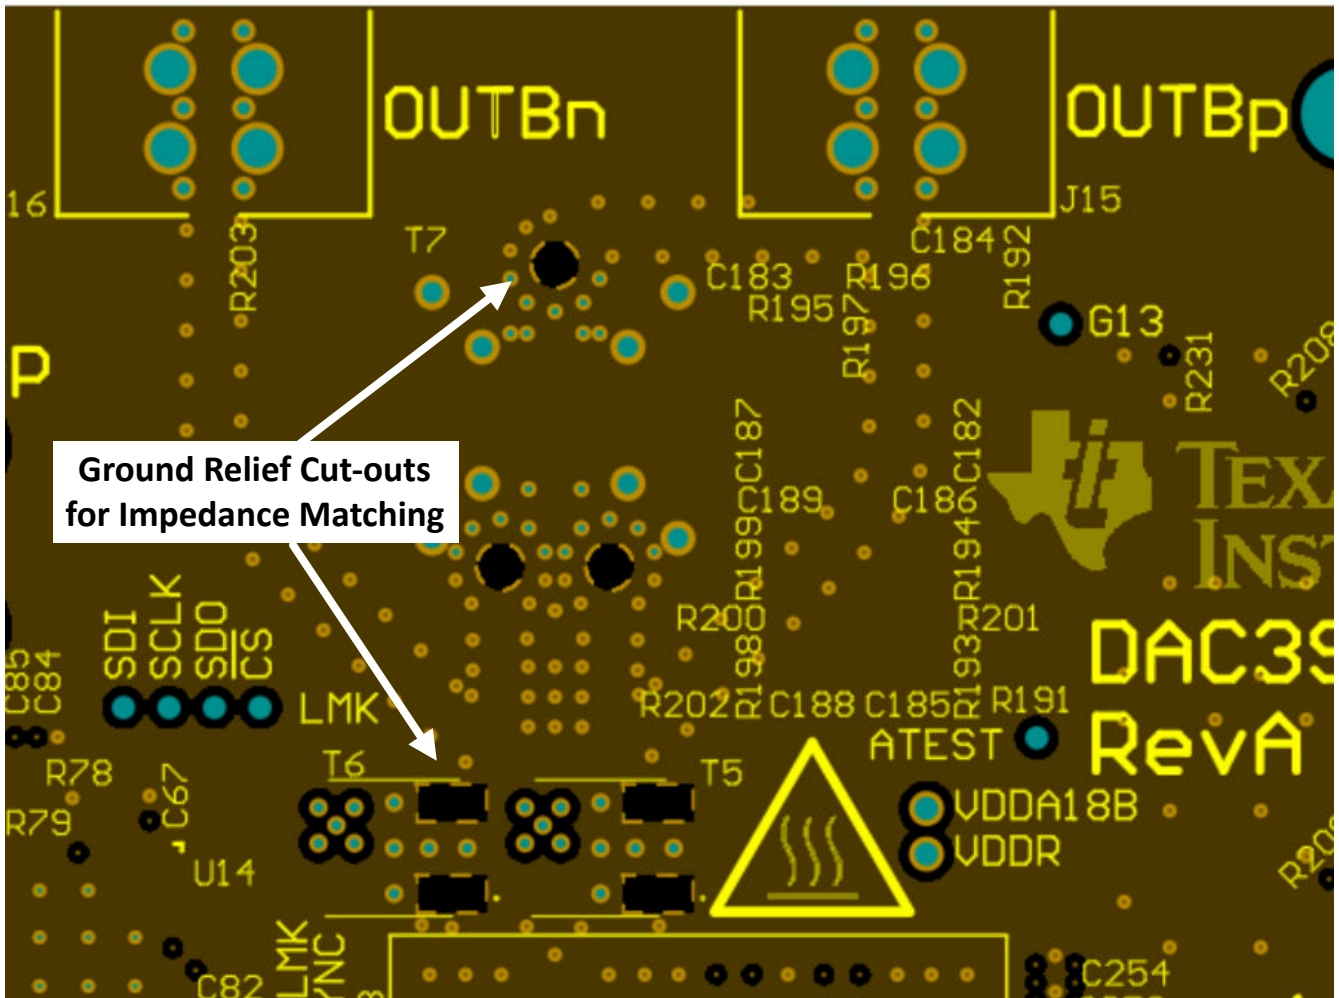

Figure 8-25. Ground Cut-outs below Balun and Bias-T Pins
5. Incorporate any ground plane cutouts necessary at component landing pads, ie – SMA connectors, baluns, etc., to avoid impedance discontinuities at these locations. Cut-outs below these landing pads on one or multiple ground planes to achieve a pad size or stackup height that achieves the needed 50- Ω , single-ended impedance. See Figure 8-25 and Figure 8-26 as an examples.